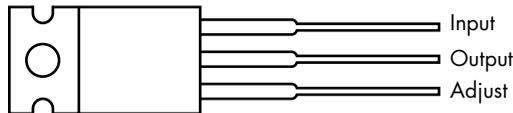

Figure 3-6: Pinout of the LM317 regulator
4. Insert the LM317, with or without heat sink attached, near the potentiometer, as shown in Figure 3-5. (See Figure 3-6 for the pinout of the LM317.)
3. Make sure to install the LM317 with the pins correctly oriented according to the pinout in Figure 3-6 and the schematic in Figure 3-4. If you use the provided shield files, the thick line on the LM317 silkscreen corresponds to the metal tab on the IC. If you insert the part the wrong way, the system won't work, and the part could burn out. It would also be a pain to remove.